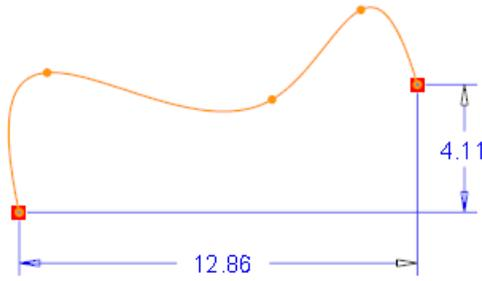

Figure 3-13 Endpoint dimensioning
2. Select the two endpoints of the spline and place the horizontal or vertical dimension by pressing the middle mouse button twice. Figure 3-13 shows a spline that is dimensioned by selecting the endpoints.